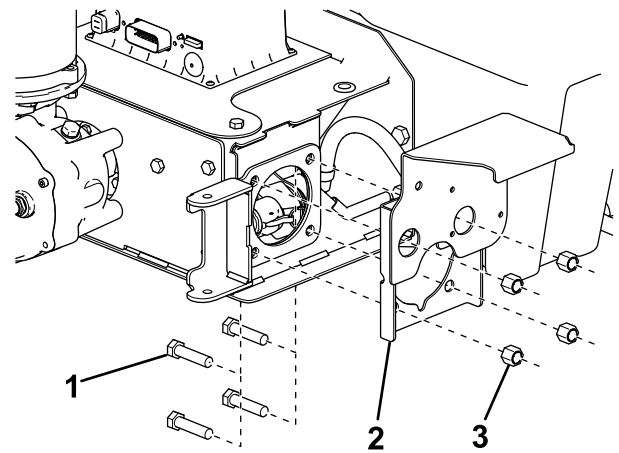

Figure 16
- Secure the pump bracket to the auger assembly using the previously removed 4 bolts and nuts (Figure 16), then continue to step 9.
- Secure the pump bracket to the pintle chain assembly using 4 bolts (1/2 inch) and nuts (Figure 16).